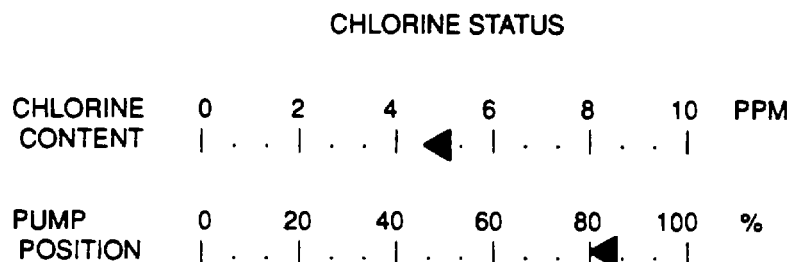
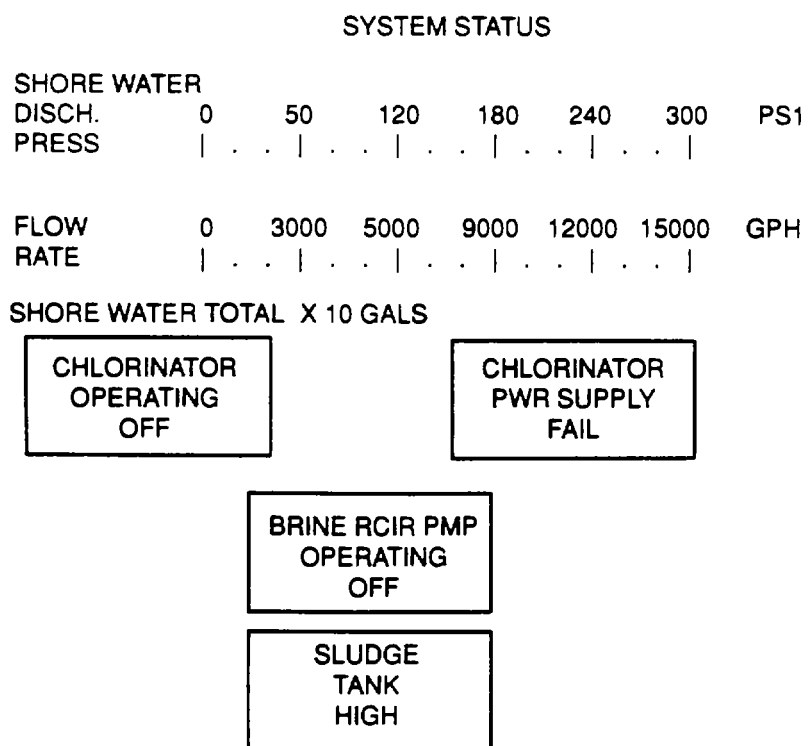

Figure 3-8. EMS Chlorine Status Display Page
Figure 3-9. EMS Status Display Page
- (1) Power supply failure light
- (2) Circulation (recirculation) pump failure light
- (3) Low salinity light
- (4) EMS
- (a) CHLORINE STATUS display page (Figure 3-8)
- (1) Chlorine content
- (2) Pump position
- (b) SYSTEM STATUS display page (Figure 3-9) - check the following:
- (1) CHLORINATOR OPERATING OFF is normal
- (2) CHLORINATOR PWR SUPPLY FAIL is normal
- (3) BRINE RCIR PMP OPERATING OFF is normal